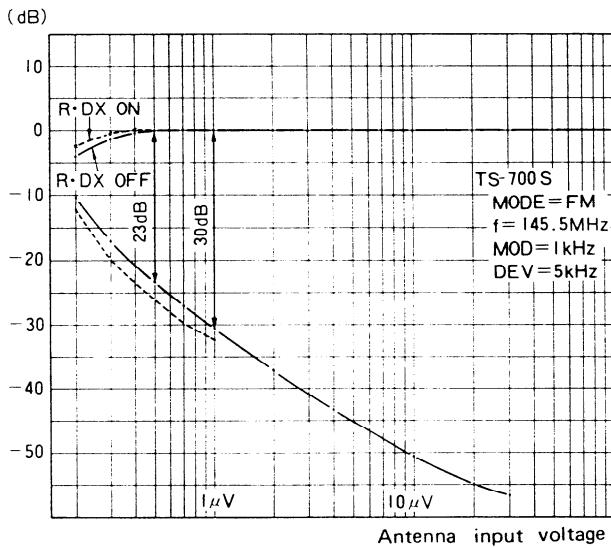

Fig. 42
- (2) Set the SSG to $0.25\mu\text{V}$ ($-12\text{ dB}\mu$), unmodulated freq 146.00 (K), 145.00 (W, T)
- (3) Receive the signal at maximum and measure the S/N ratio.
- (4) Set the R DX to On and verify that the S/N is improved more than 0.5 dB.
- (5) Refer to Fig. 42 for specifications.